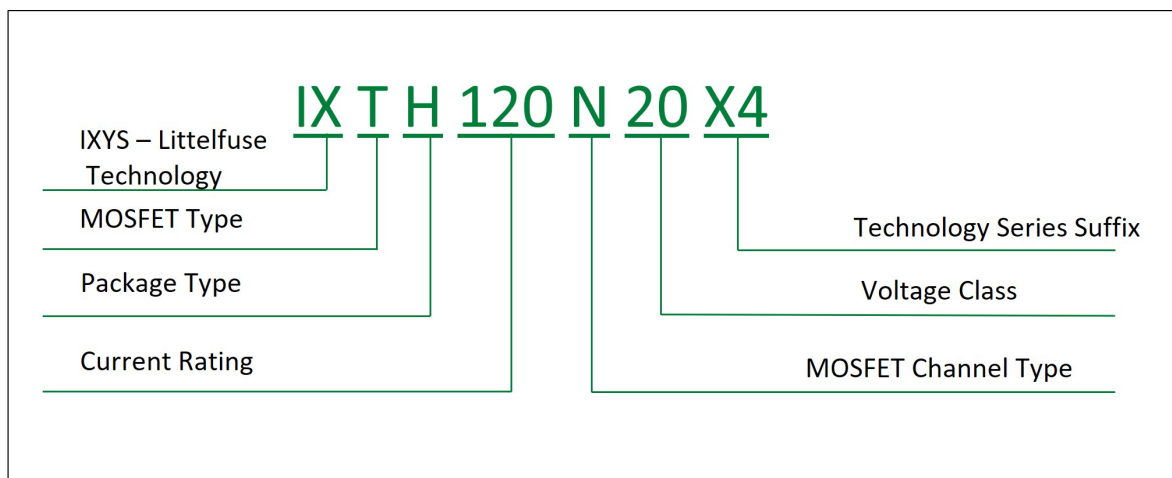

Figure 1. Part Number Designation
- **Part Number** indicates the manufacturer, MOSFET type, package type, current rating, channel type, voltage class, technology series and a suffix for some special packages that gives extra information such as high voltage package, over molded package, and w/ 4 leads. Designation of MOSFET part number is drafted in **Figure 1**. The detailed information about this can be found as part number nomenclature - discrete Si MOSFET on Littelfuse website.